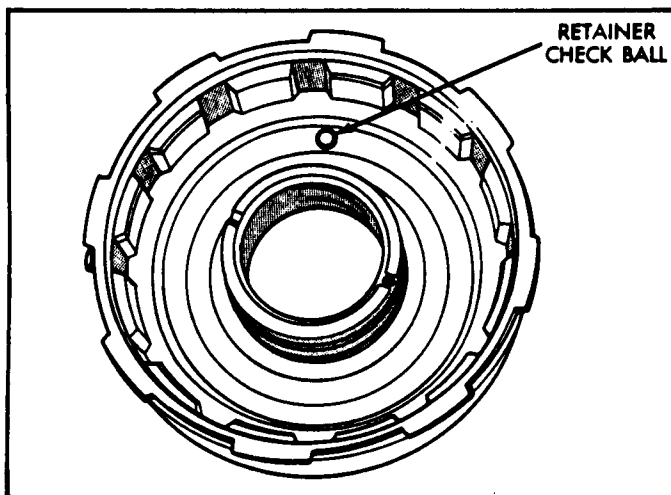

Figure 59
2. Check the ball capsule in front clutch housing for free movement and verify that it does not leak (See Figure 59). Leak check with small amount solvent.